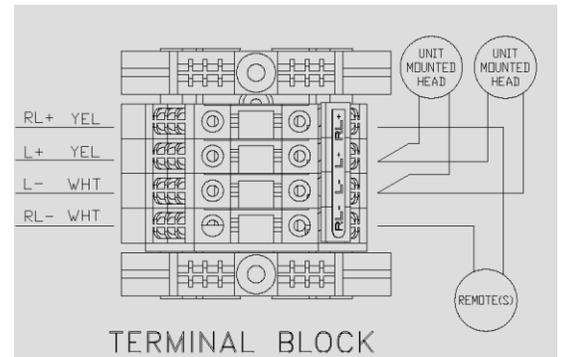

Figure 2
- 7. A dual load terminal block is provided for lamp hook-up. Ensure total wattage of heads, both unit mounted and remote (if applicable), does not exceed unit rating. Factory mounted lamps are wired to the terminal block at points L+ and L-. All remote loads should be wired to the terminal block at RL+ and RL- (See Figure 2). Use wire gauge that limits voltage drop to an acceptable level (See page 6)